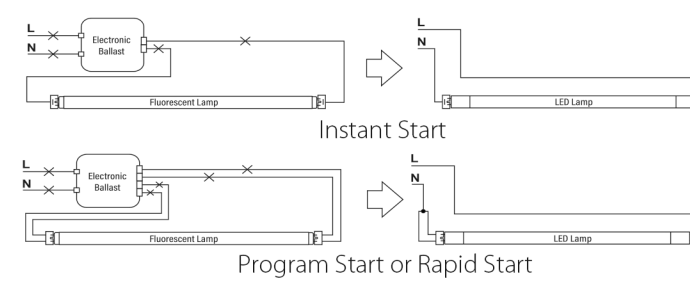

Fig. 2 - Retrofit luminaire with One Lamp
- 8. Make sure all sockets are replaced and wired according to the appropriate wiring diagram. (Fig. 2, 3, 4, 5).